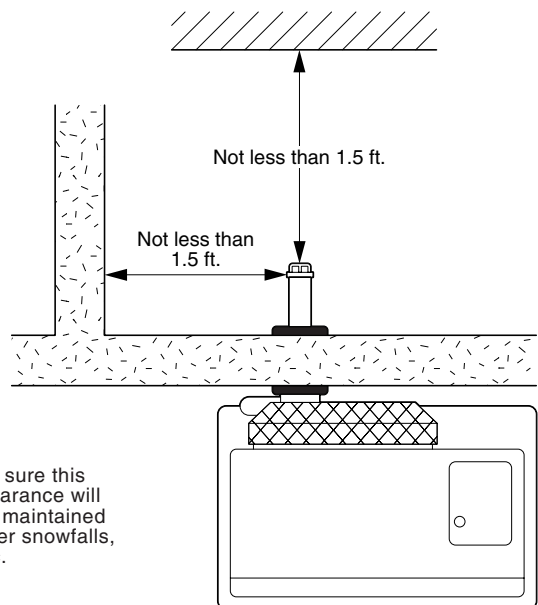

Fig. 3
①	Adjustable Exhaust Pipe Max. 19- ¹¹ / ₁₆ ~ Min. 12- ⁵ / ₈	1
②	Intake Pipe (20 inch)	1
③	Insulating cloth cover (40 inch)	1
④	Pipe Holder	2
⑤	Pipe Support Hardware	1 sets
⑥	L-Shaped Exhaust Joint	1
When using the "Extension pipe (S)" extension kit, the distance between the heater exhaust pipe connection and the flue pipe connection must be at least 15-³/₄ inch but no more than 22-³/₄ inch. (See Figure 3 for reference.)